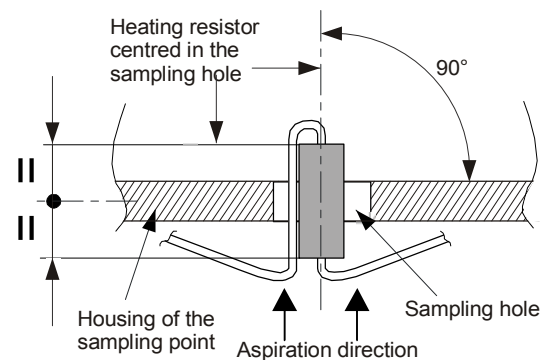

Fig. 9 Centring the heating resistor
- The heating resistor must be precisely centred in the sampling hole, **Fig. 9**.
When you tape the sampling opening, make sure not to damage the heating resistors. After the test, open the sampling holes completely. Make sure that the heating resistors are still correctly centred in the sampling holes (see also Fig. 9).